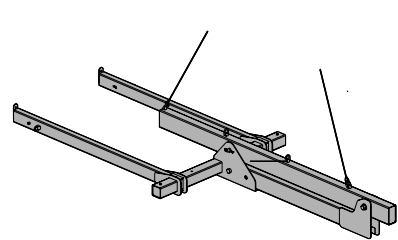

Fig. 5.1 (schematic representation)
- Attach the transport spreader to the crane using the two outer attachment points (A) and (F) (Fig. 5.1).